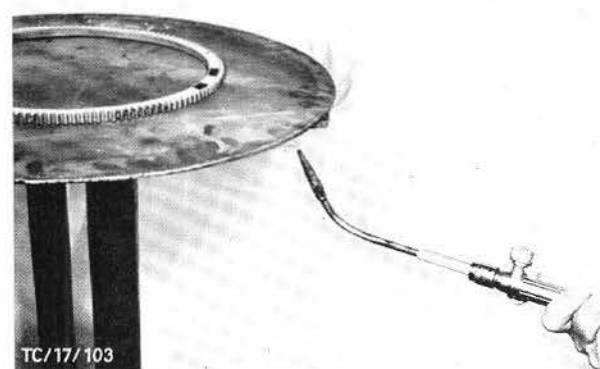

Fig. 105. Heat up ring gear.
3. Lay new ring gear on a plate some 2 to 3 mm thick and heat up plate to 260° to 280° from below, in area of ring gear itself, using a welding torch to give uniform heating, Fig. 105.